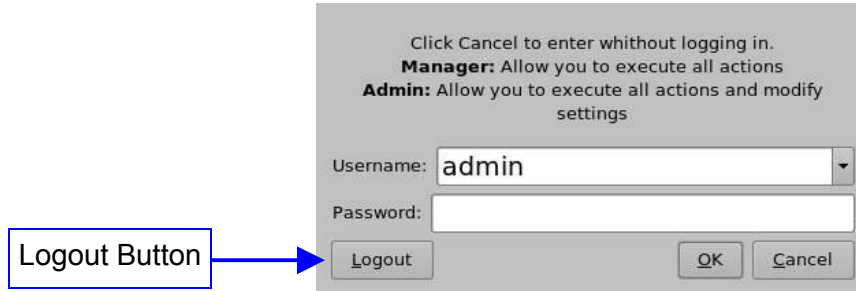

Figure 89: Authentication Window
- To change the user, double-click on the User icon (Figure 89).